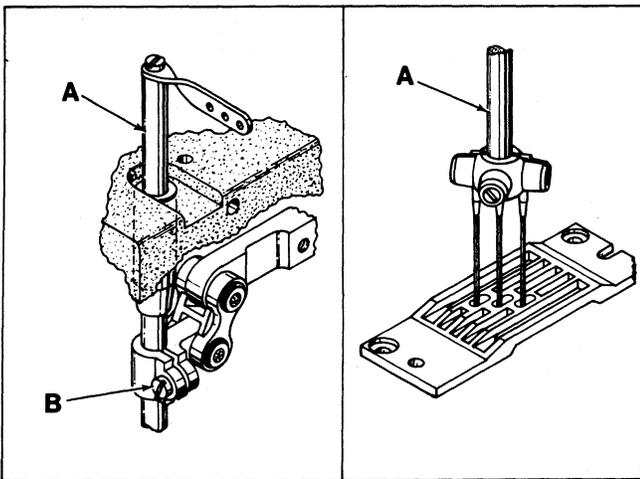
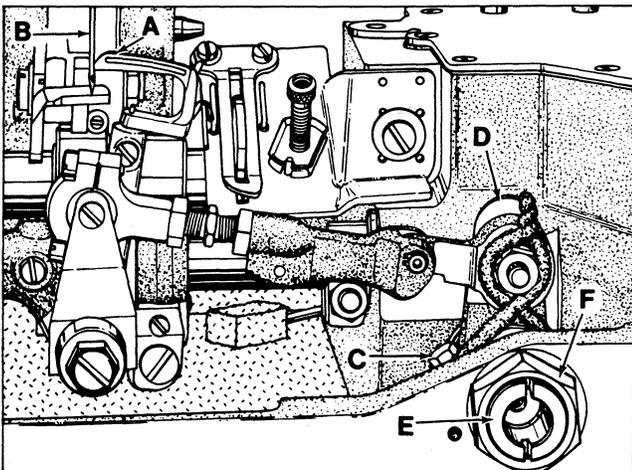
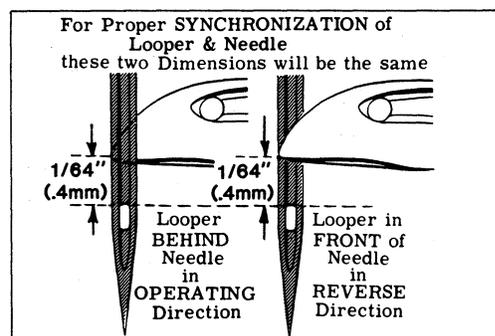

Fig. 3
Fig. 4
Fig. 5
Insert a new set of needles (type and size required). Turn handwheel to bring needle bar (A, Fig. 3) down to ensure that needles center in needle holes of throat plate as shown in Fig. 3. Adjustment can be made by loosening screw (B) slightly, allowing needle bar to be turned as required. Tighten clamp screw.
Insert looper into the looper rocker, pushing it all the way down and tighten screw against flat on shank of looper. Turn handwheel in operating direction until the point of the looper (A, Fig. 4) moving to the left, is even with the left side of the right needle (B). Note the height of the eye of the needle with respect to the looper point (See Fig. 5). Turn the handwheel in the reverse direction until the point of looper again moving to the left, is even with the left side of right needle (See Fig. 5). If the height of the eye of the needle with respect to the looper point are the same, looper and needle motions are synchronized - a variation of .005 inch (.127mm) is allowable.
NOTE: The 1/64 inch (.4mm) dimension shown in Fig. 5 is for final setting of needle bar height.
Loosen screw (C, Fig. 4) in looper drive lever (D). A rod of .146-40 thd. or Union Special Screw No. 22870 A can be threaded into the looper drive lever rocker shaft through the center of thrust adjusting screw (E). Tap or pull slightly as required to position shaft for proper synchronization. Tighten screw (C) securely and remove rod or screw used to position shaft. Loosen lock nut (F) and TORQUE thrust adjusting screw (E) to 6 in. lbs. (7cm/kg); re-tighten lock nut (F) securely.
The height of the needle is correct when the top of its eye is  $\frac{1}{64}$  inch (.4mm) below the underside of the looper, with the looper point flush with the left side of the needle as shown in Fig. 5. On Styles 56500 A, B and C the top of the needle eyes should be even with the underside of the looper when the looper point is flush with the left side of the needle. If adjustment is necessary, loosen screw (B, Fig. 3) and move needle bar (A) up or down as required and retighten screw. On two and three needle machines, care should be taken not to disturb alignment of needle bar when moving the needle bar either up or down. The descending needles must be deflected alike on the back of the loopers.